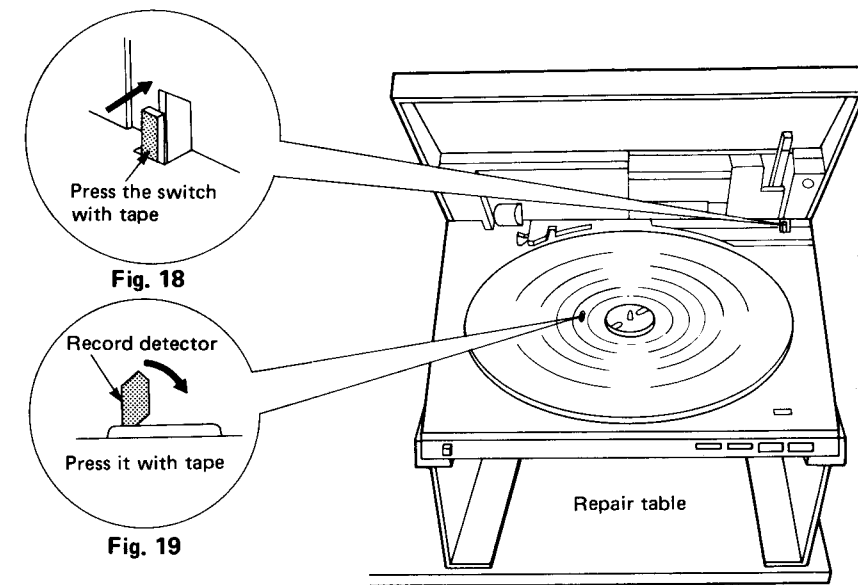

Fig. 18
3. Secure the record detector with adhesive tape. (Fig. 18)